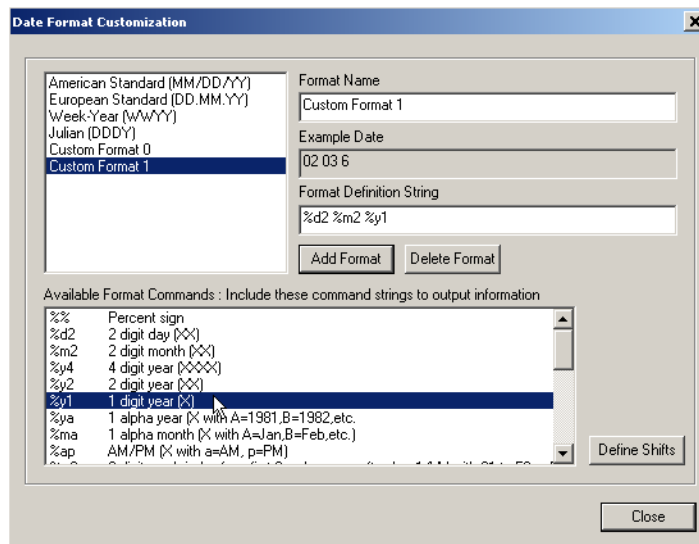

Figure 16-3 Date Format Customization dialog box
- 1 In the *Date Format Customization* dialog box (Figure 16-3) click the *Add Format* button.